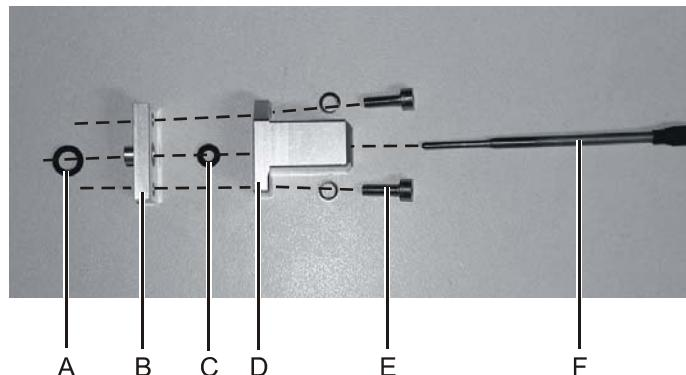

Figure 42: Temperature sensor assembly
11. Following the order as indicated in Figure 42, assemble the connecting flange (B), locating piece (D), temperature sensor (F), O-rings (A and C) and screws (E).